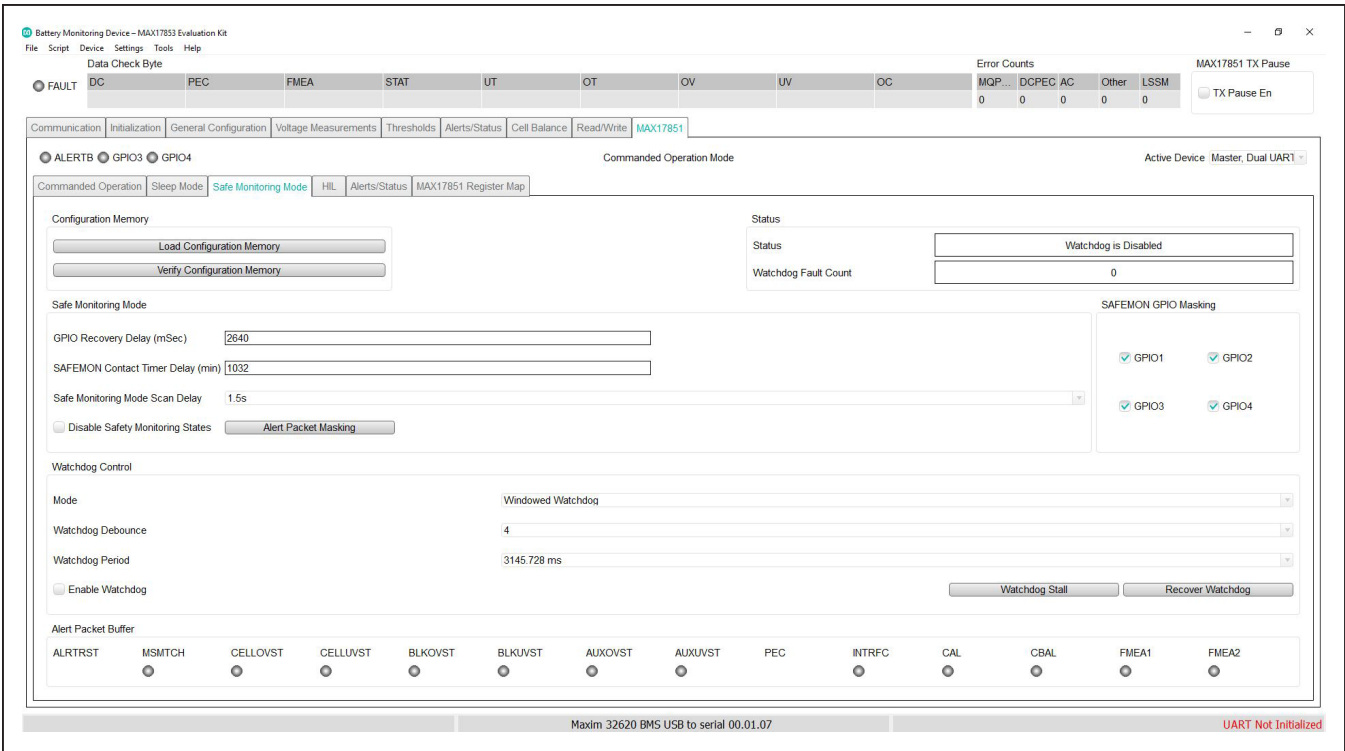
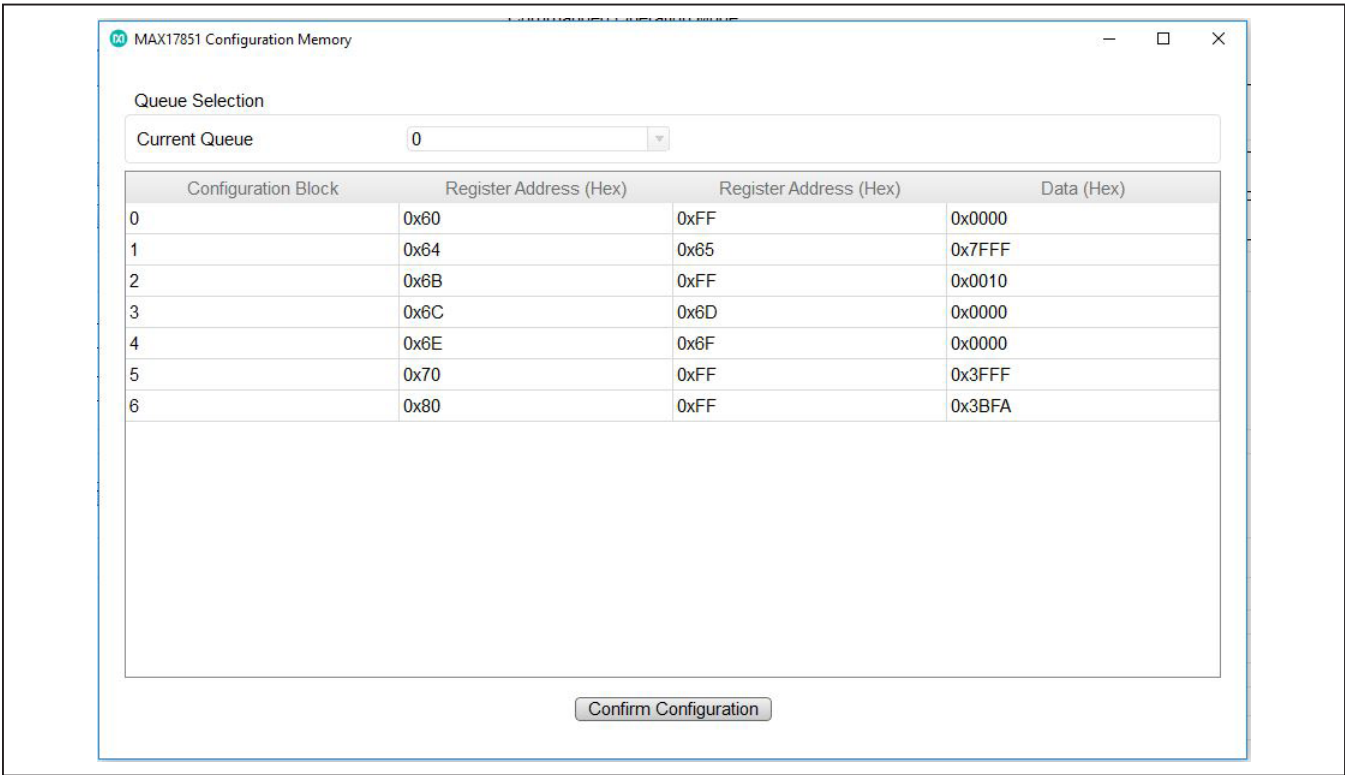

Figure 30. Safe Monitoring Mode tab
Figure 31. Configuration Memory
- 14) Select the **Safe Monitoring Mode** tab (Figure 30) and in the **Safe Monitoring Mode** group box, set the **SAFEMON Contact Timer Delay (min)** to **16 min**.
The **Safe Monitoring Mode** tab (see Figure 30) grants the user the ability to evaluate the Safe Monitoring Mode feature of the MAX17851. The **Load Configuration Memory** button on the upper-left side of the GUI, opens an individual panel to manage the configuration memory feature of the MAX17851 (see Figure 31). The configuration memory stores the desired UART commands to be executed in Safe Monitoring mode ensuring all daisy-chain devices are in a known state. The **Verify Configuration Memory** button executes the verify configuration command. Failure of this operation will be indicated by the **DATAPATH ERR** alert.